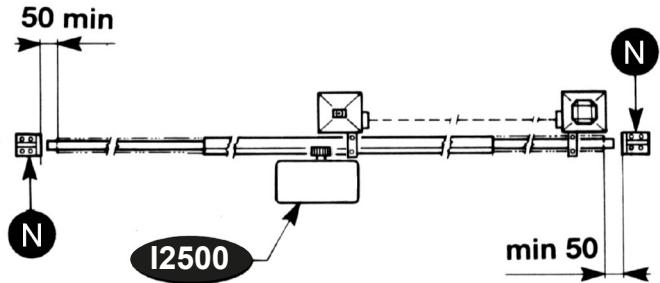
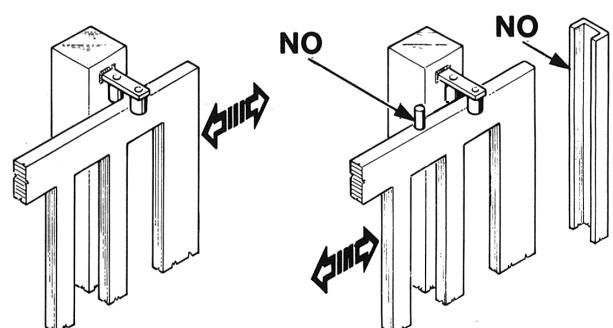

FIG. 2
FIG. 3
- Besides the electrical or mechanical limit switches available on the operators, there must be, on both ends of the installation, a fixed mechanical stopper which stop the gate in the unlikely event of ill functioning of limit switches on the operators. For this reason the fixed mechanical stopper must be of an adequate size to withstand the static and kinetic forces generated by the gate (N) (Fig.2).
The guide must be provided with two mechanical stops at its ends (N) (Fig. 2). Gate columns shall have anti-derailment guides on their top (Fig. 3), to avoid the unintentional gate release.
N.B: Eliminate those mechanical stops of the kind described by figure 3.